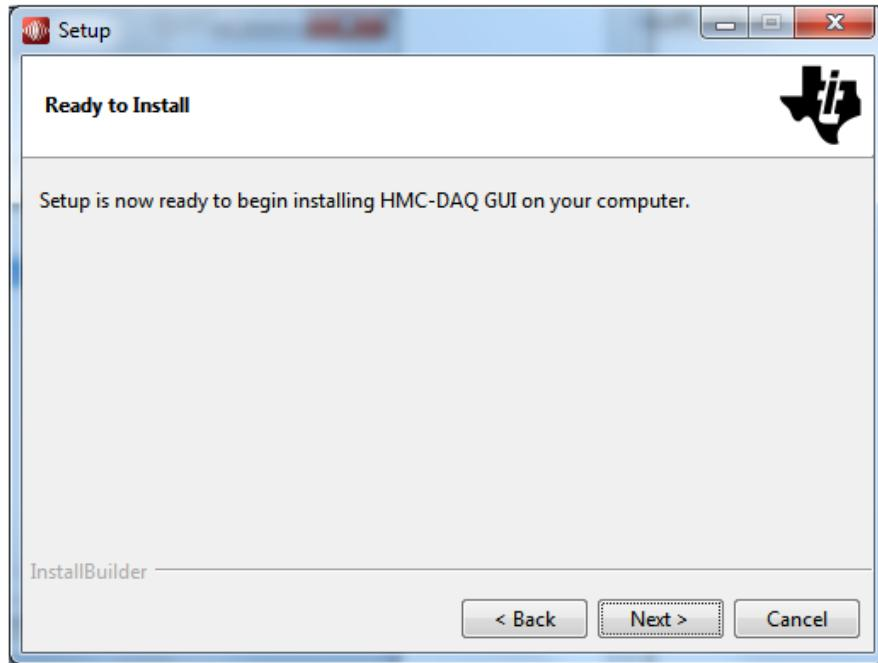

Figure 38. HMC-DAQ GUI Install (Installation Ready)
5. Pressing the *Next* button begins installation, as shown in Figure 38.